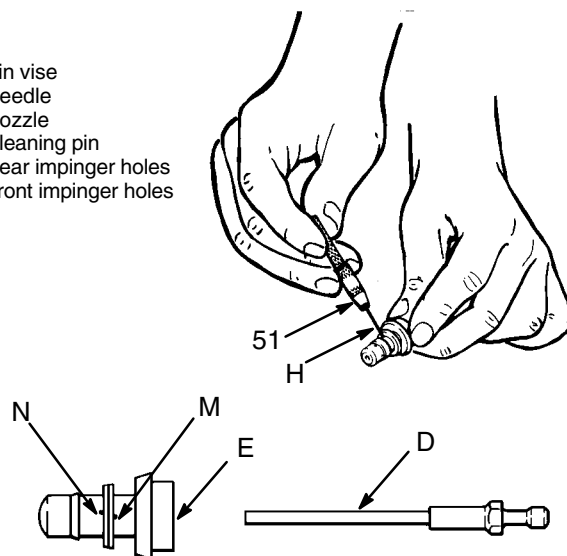

Fig. 16
4. **Clean the rear impinger holes (M) of the nozzle (E) first.** From the tip end of the nozzle, look through the nozzle while inserting the cleaning pin (H) into the *rear* impinger holes. See Fig. 16.
7. **Now clean the front impinger holes (N).** On the spray nozzles these impinger holes *are not* on the centerline of the nozzle, but are just off center. On pour nozzles these holes *are* on the centerline. It is important that the pin be inserted at the same angle that the impinger hole is bored in order to clean it properly.
Look through the nozzle from the tip end. Insert the pin (H), pushing it through the impinger hole and into the center of the nozzle. *But do not push the pin all the way through which will scratch the interior of the nozzle.* See Fig. 16.
8. Insert the needle (D) through the large end of the nozzle and push out any debris.